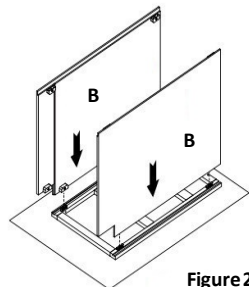
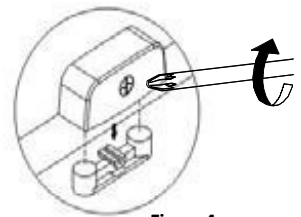

Figure 2
Figure 4
2. Installing the Side Panels (Figure 2): Insert right and left side panels (B) into the grooves of the face frame (A) and align the cam lock connectors (Figure 2). Lock the cam with a screw driver by turning the screw 180° clockwise (Figure 4).